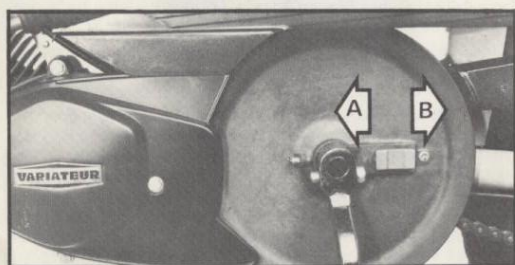

Fig. 6
Before starting, make sure that the engine drive knob on the large driven pulley is on the « B » position (see Fig. 6).
- Put the engine drive knob in the « B » position (Fig. 6, page 11)
- Put the ignition switch (5) on the RUN position.
- Turn the throttle twist grip (3) slightly inwards with your right hand.
- Squeeze the choke (2) with your left hand.
- With your right thumb squeeze completely the decompressor control lever (1).
- Starting with the left-hand pedal at its top position kick the pedal down sharply and release the decompressor lever (1) (right thumb) when the left-hand crank arm reaches the bottom.
- As soon as the engine engages, use the throttle (3) to give it some more gas.
- After the engine has run for a few seconds, release the choke (2).
- Stop the rear wheel from spinning simply by squeezing the left hand rear brake lever (4).
- Put the engine drive knob in the « B » position (Fig. 6, page 11).
- Put the ignition switch to its RUN (5) position and engage the throttle slightly.
- Squeeze both the choke lever (2), and decompressor control lever (1).
- As soon as the engine is turning, release the decompressor control lever (1) (right thumb) and open the throttle more